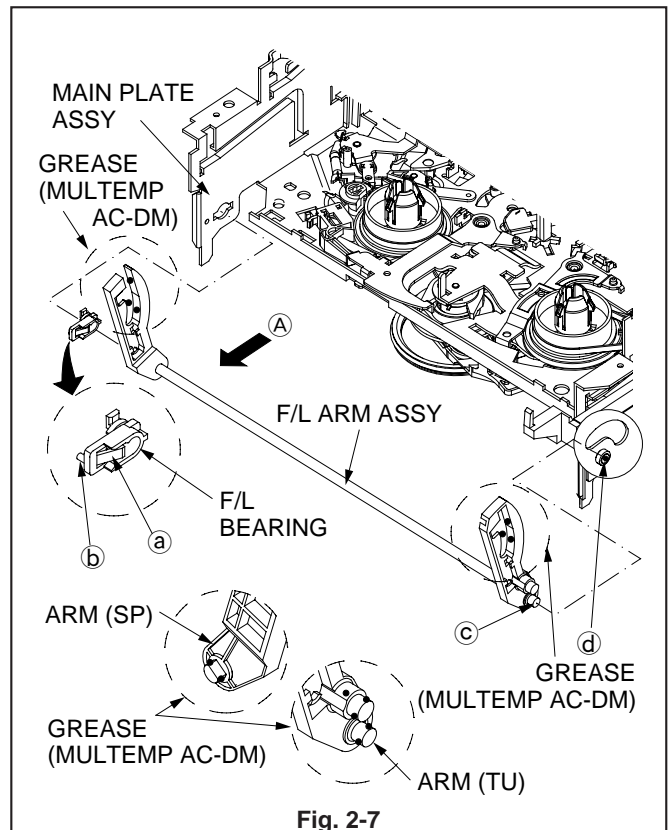

Fig. 2-7
1. Release the catch (a) of the F/L BEARING shown in Fig. 2-7 and pull out the F/L ARM ASSY in the direction shown by arrow A.
2. Release the catch (b) of the F/L BEARING shown in Fig. 2-7 and rotate the F/L BEARING 90 degrees to remove it.
1. Apply grease (MULTEMP AC-DM)[859D055O90] to the groove of the MAIN PLATE ASSY shown in Fig. 2-7.
2. Apply grease (MULTEMP AC-DM)[859D055O90] to the boss of the ARM (SP) shown in Fig. 2-7.
3. Apply grease (MULTEMP AC-DM)[859D055O90] to the bosses of the ARM (TU) shown in Fig. 2-7.
4. Install the F/L BEARING shown in Fig. 2-7.
5. Insert the boss (c) of the F/L ARM ASSY shown in Fig. 2-7 into the groove (d) of the MAIN PLATE ASSY to install the F/L ARM ASSY.